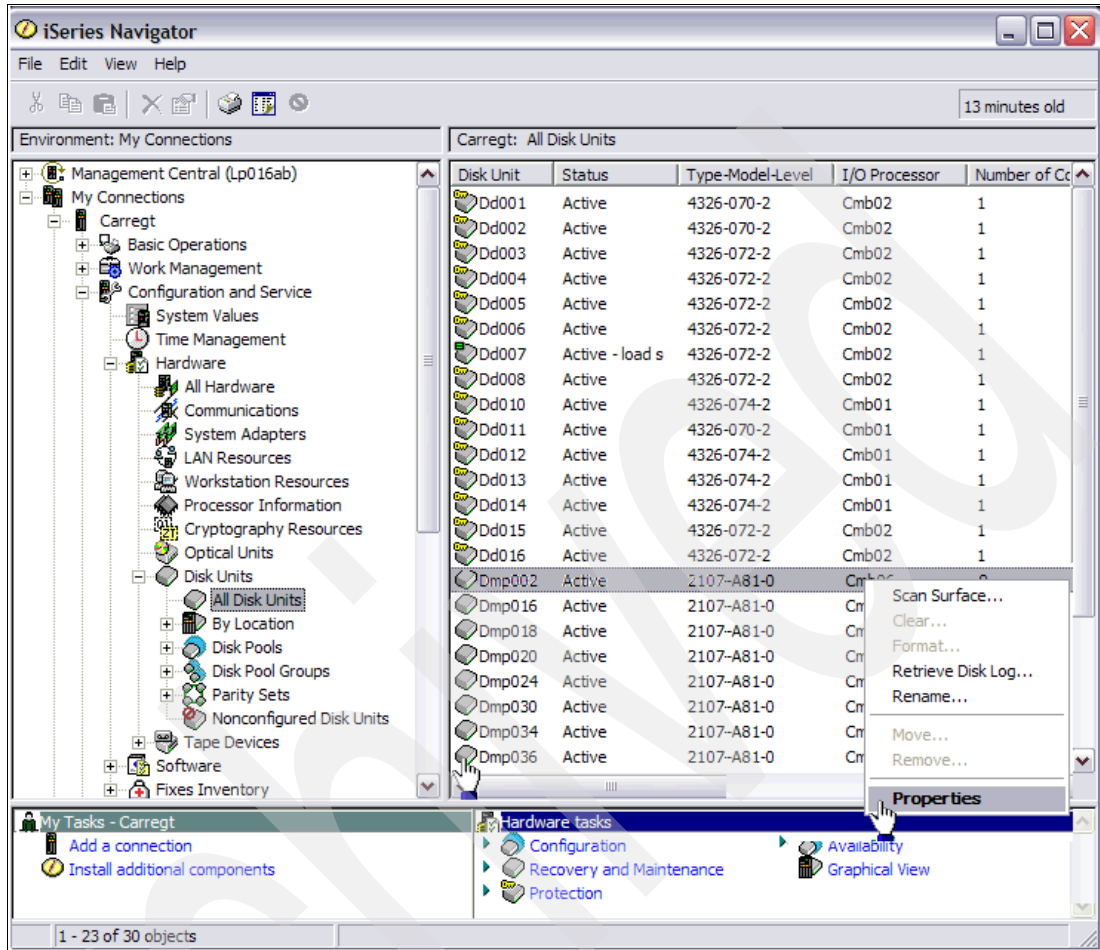

Figure 5-43 Selecting properties for a multipath logical unit
- To see the other connections to a logical unit, right-click a unit, and select **Properties**, as shown in Figure 5-43.